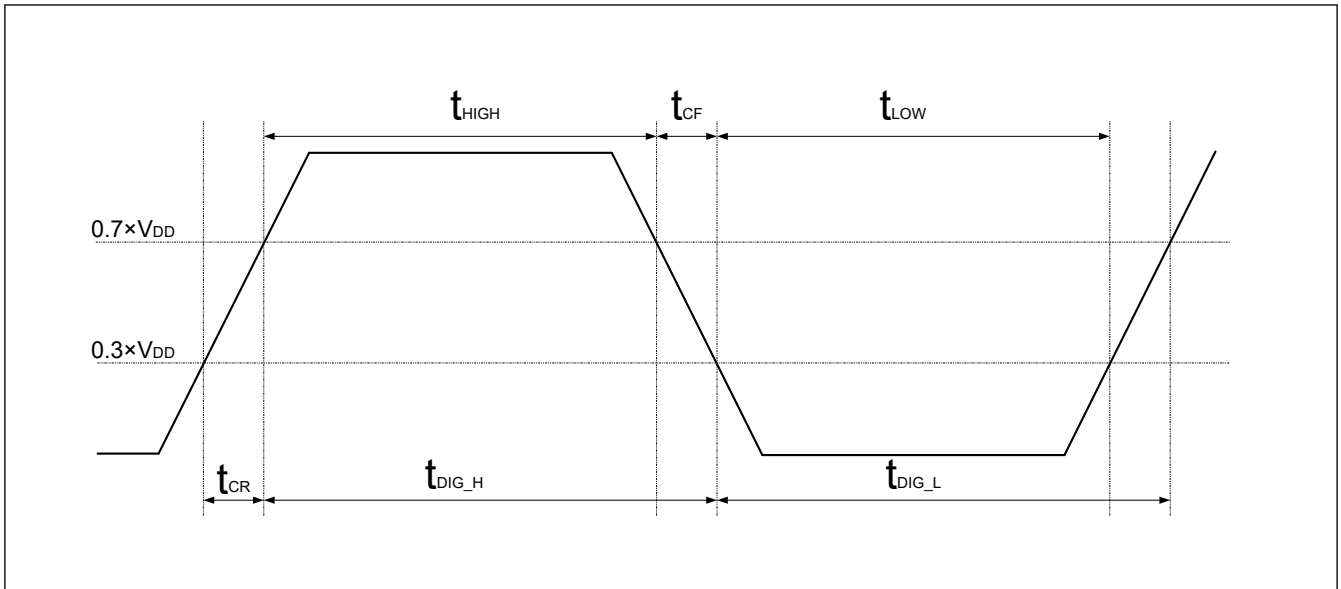

Figure 2.36  $t_{DIG\_H}$  and  $t_{DIG\_L}$
- $t_{DIG\_L}$  and  $t_{DIG\_H}$  are the clock Low and High periods as seen at the receiver end of the I3C Bus using VIL and VIH (see Figure 2.36)